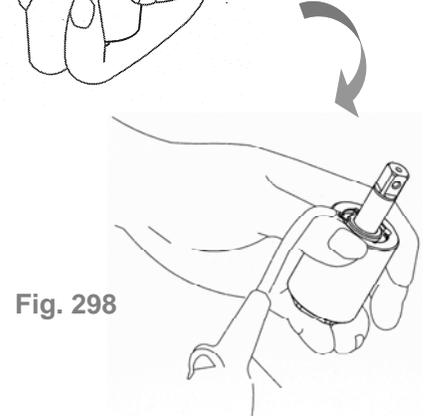

Fig. 298
④ Use an air spray gun to blow off the oil on the cylinder seat, Fig. 298.